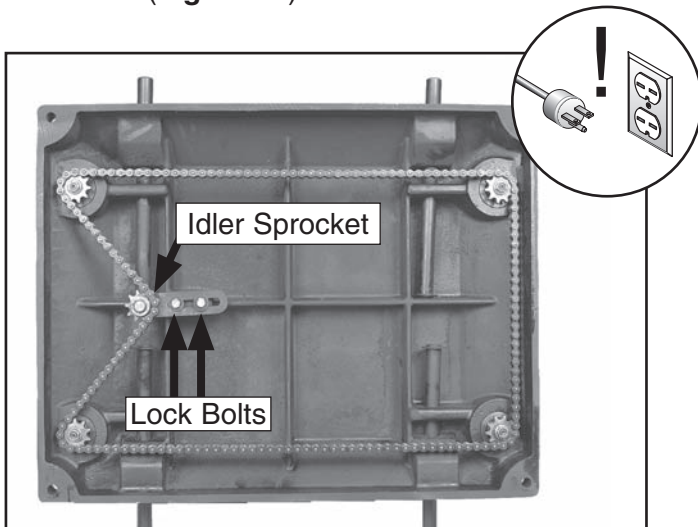

Figure 22. Underside of table.
3. Loosen the two locking bolts and move the idler sprocket until chain play has been eliminated (**Figure 22**).